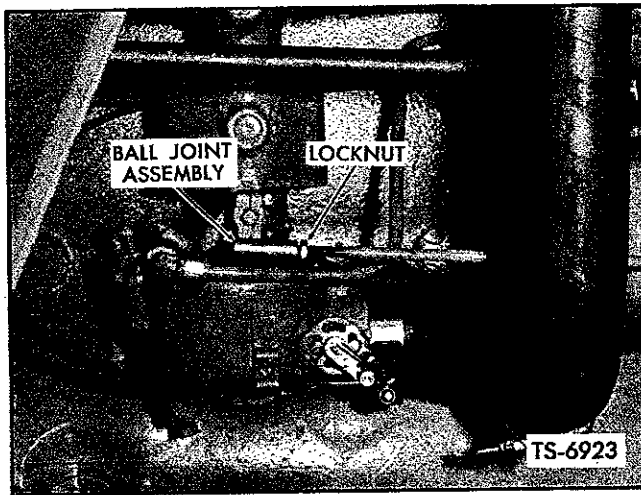

Fig. 19. Adjust Throttle Linkage — Waukesha Gas
5. Release accelerator, and check that linkage will return throttle lever to idle position as shown in Figure 19.